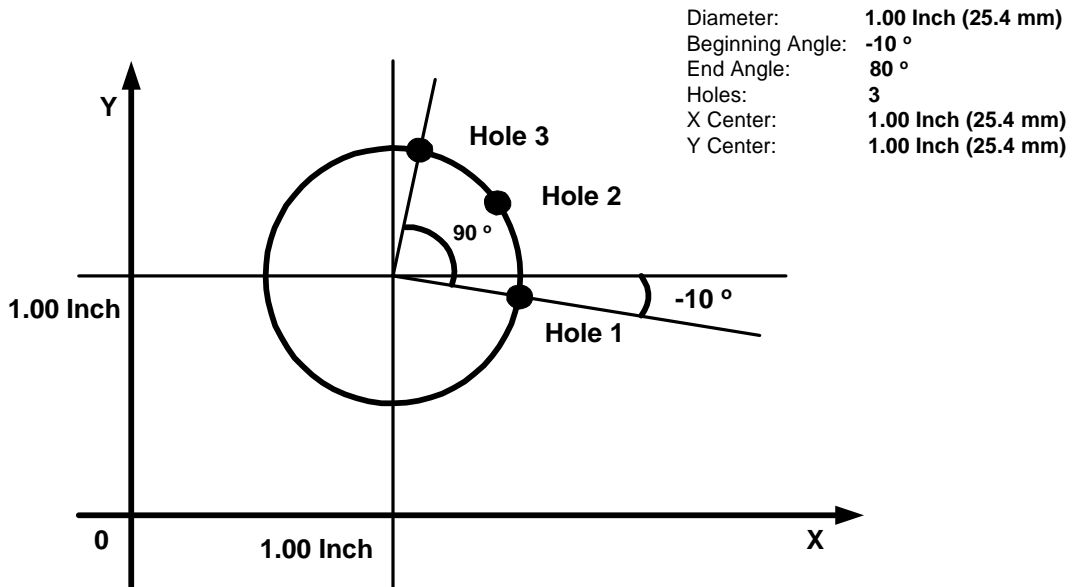

Figure 1: Partial Bolt-Hole Pattern
- Partial Pattern In a partial pattern, the holes do not cover the entire circumference of the circle. Instead they form an arc, called a partial pattern. (See Figure 1)